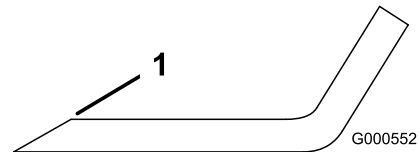

Figure 46
1. Use a file to sharpen the cutting edge at both ends of the blade (Figure 46).
Note: If the blade is not balanced, file some metal off the end of the sail area only (Figure 46).